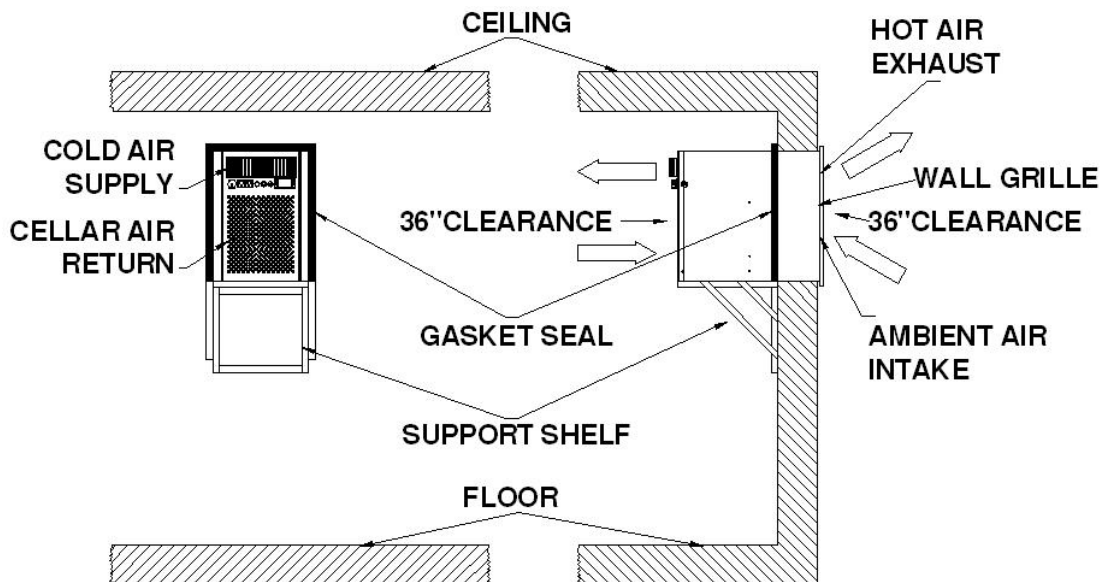

Fig. 1 Flush to the outside of wall with wall grille
1. Through-wall installation without ducts (Fig 1, 2 & 3)